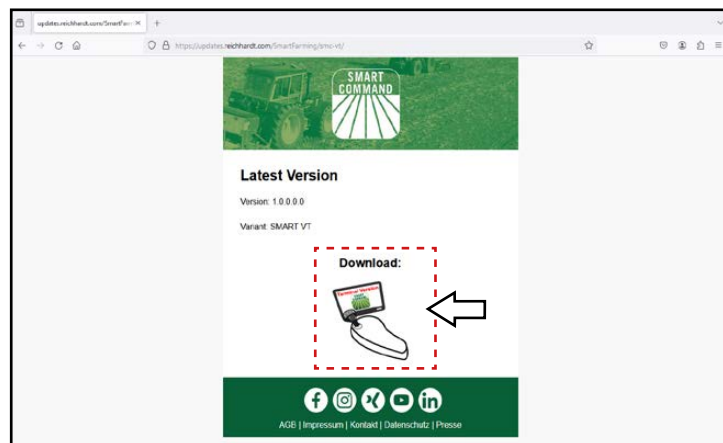

Fig. 115: Downloading terminal update
2. Download the update by selecting the terminal icon (see Fig. 115).